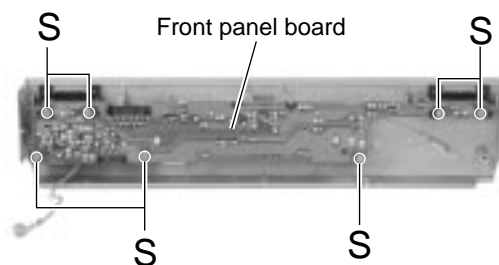

Fig.28
■Removing the front panel board (See Fig.28)